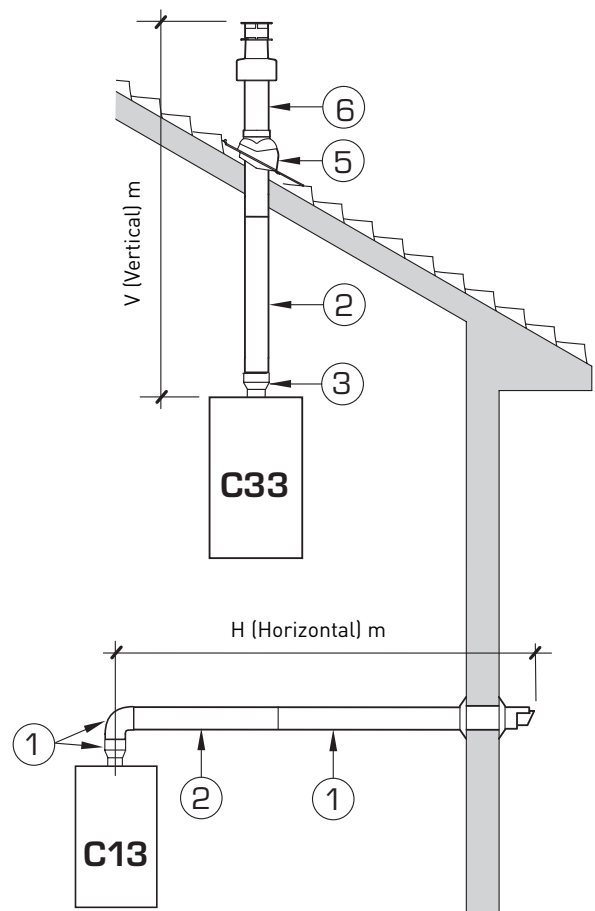

Fig. 6
The diagrams of fig. 6 illustrate some examples of different types of flue options allowed and the maximum lengths that can be reached. It is essential that a flue gas analysis test point is made available directly above the boiler.
2.6 INSTALLATION OF COAXIAL DUCT $\varnothing 60/100 - \varnothing 80/125$ (fig. 6)